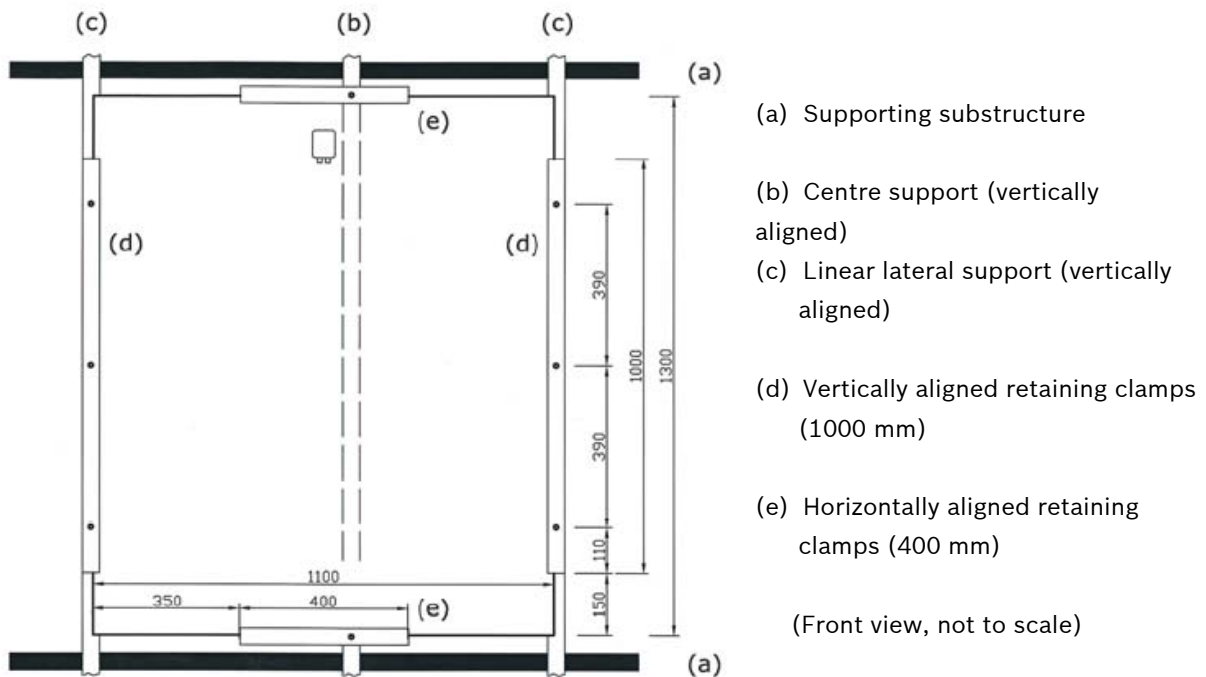

Figure 1: – Diagram showing linear mounting on both sides with centre support and clamps for loads of up to 2400 Pa
10. The given spacing of the anchorage points for the vertical and horizontal retaining clamps must be observed (see Fig. 1). Screw torques are specified in the instructions supplied by the mounting system manufacturer to ensure permanently elastic support of the solar modules without undue play.